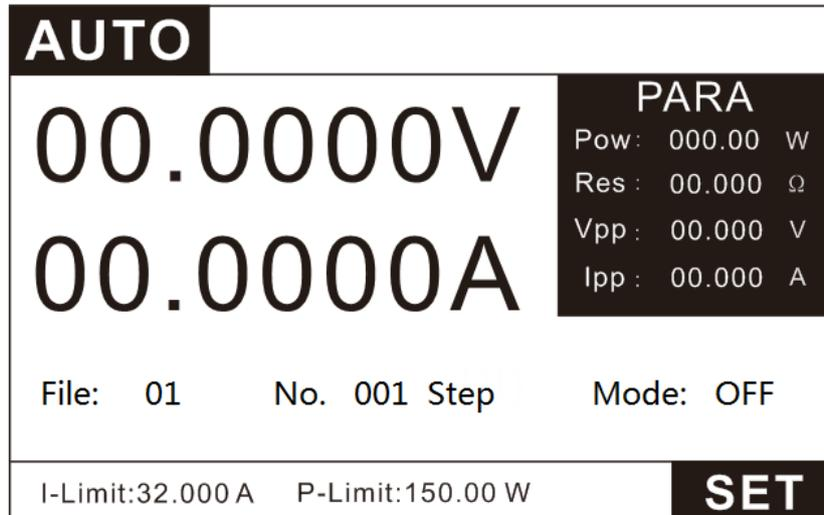
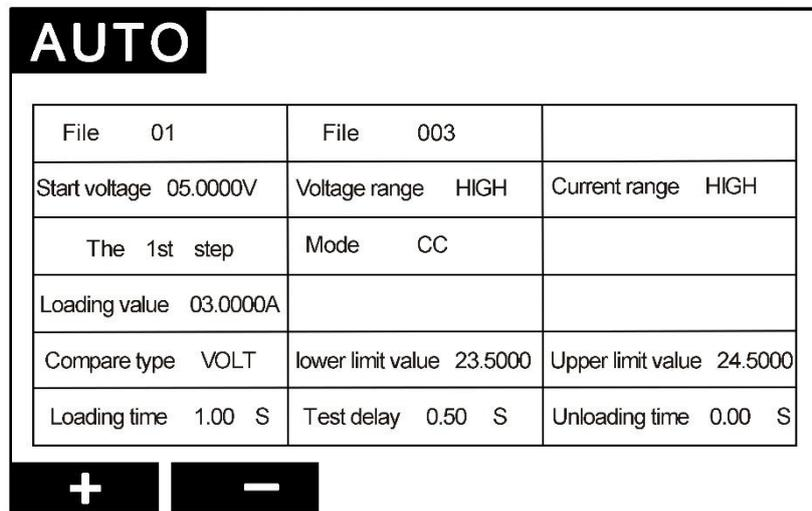

Figure 3.12 AUTO test Page
Figure3.13 AUTO test editing Page
1. Press the key  to enter the mode selection page, press the up and down keys to select AUTO, and press the key  to enter the AUTO test interface, as shown in Figure 3.12.
2. In Figure 3.12, press the key  to enter the setting interface, as shown in Figure 3.13.